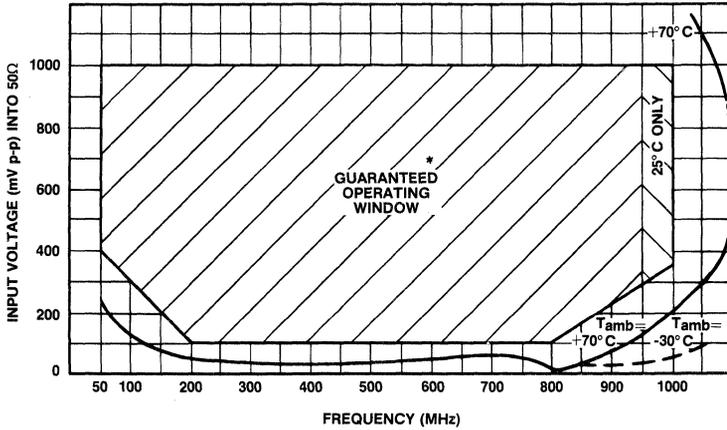

Fig.4 Typical input characteristics
1. See Fig.4 for guaranteed operating window.